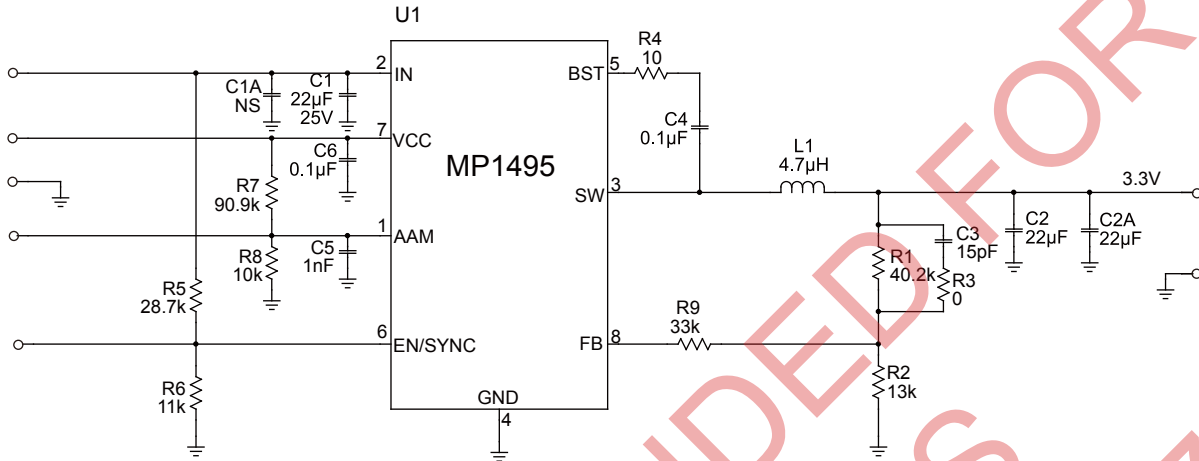

Figure 8: 12V_{IN}, 3.3V/3A
- 8) The recommended layout is based on the Figure 8 Typical Application circuit on the next page.